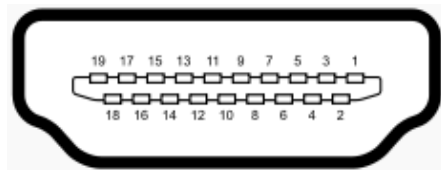

Figure 3-29: HDMI Connector Pinout Locations
- CN Location:** See **Figure 3-29**